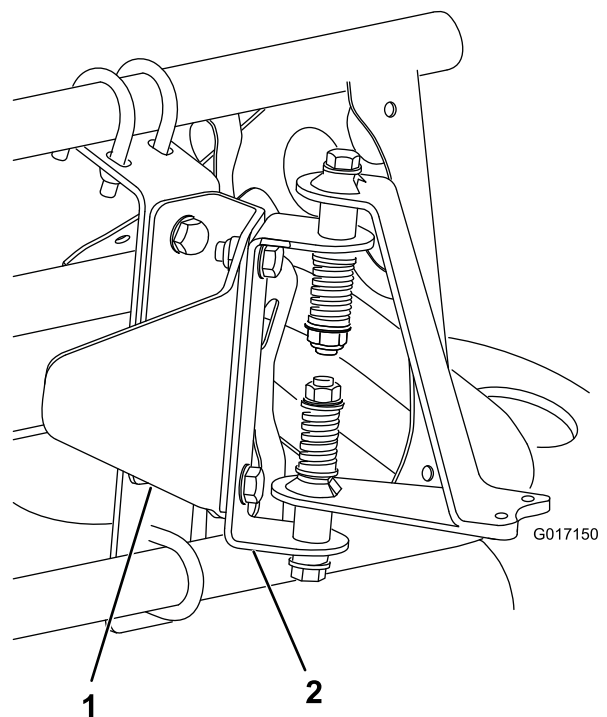
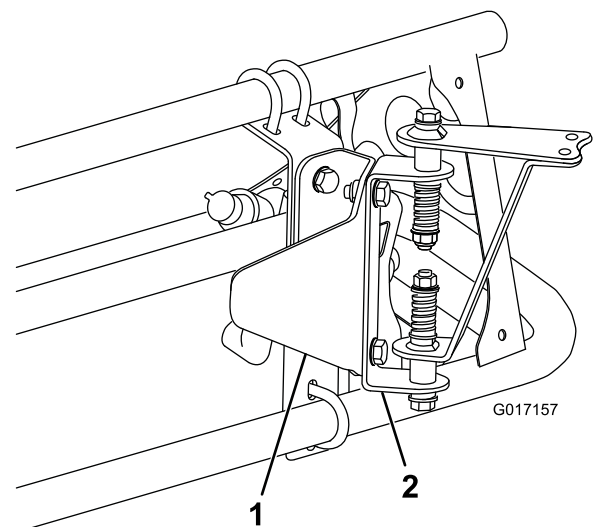

Figure 11
Figure 12
3. Install the sensor mounting hardware onto the sensor guard bracket with 2 bolts (5/16 x 3/4 inch) and 2 locknuts (5/16 inch) as shown in Figure 11 (for a covered boom) or Figure 12 (for an uncovered boom).